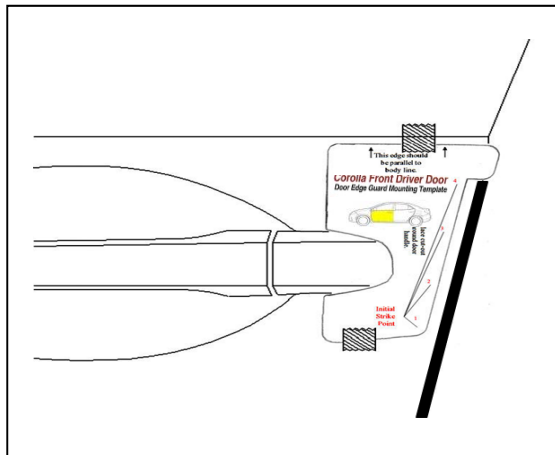

Fig. 2-4
(2) Align the top edge of the DEG (labeled Front Driver with Pink sticker) with the lower edge of the template alignment notch as shown (Fig 2-4).